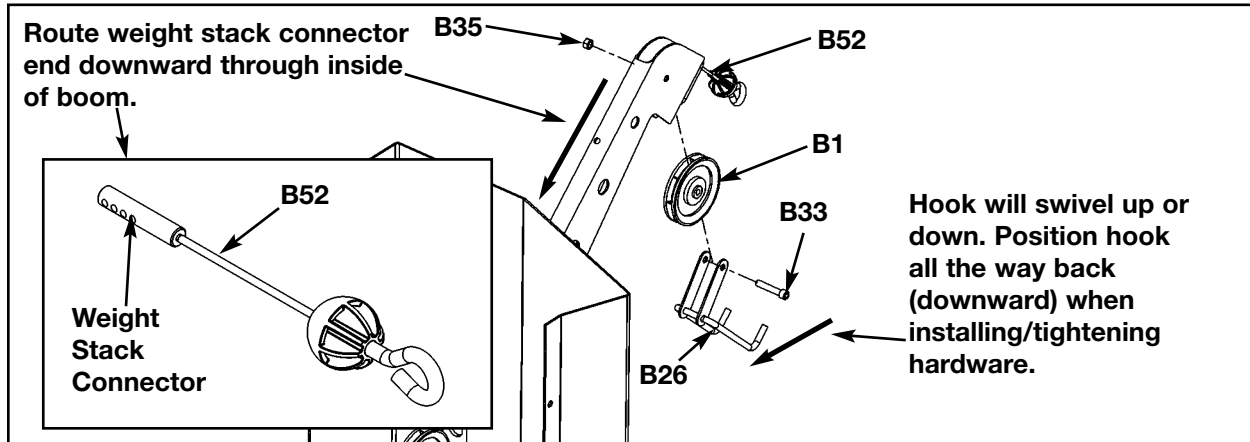

Figure 17
- D. Assemble pulley (#B1), hook (#B26) into boom and route cable (#B52) around pulley. Secure using SHCS .375-16 x 2.00 (#B33) and locknut (#B35). Route cable downward through boom. See Figure 17.